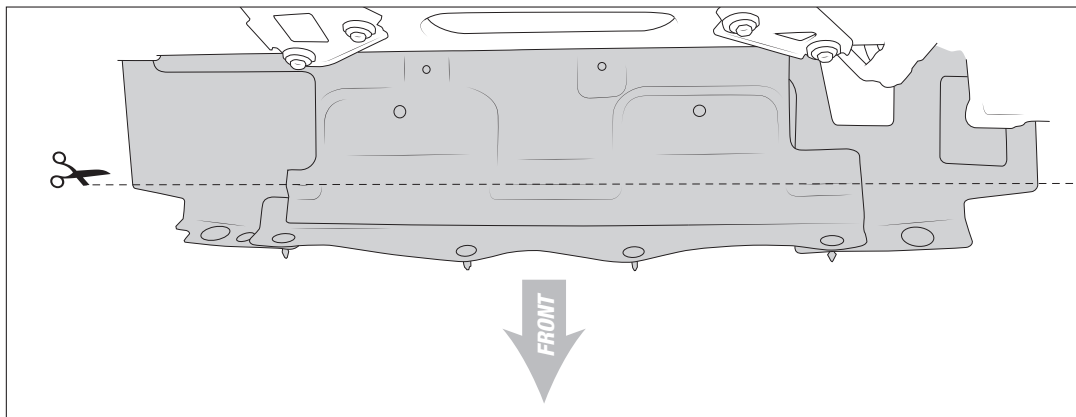

Figure 13
20. **For 2014+ GAS trucks**, trim the lower radiator shroud as shown (fig. 13).